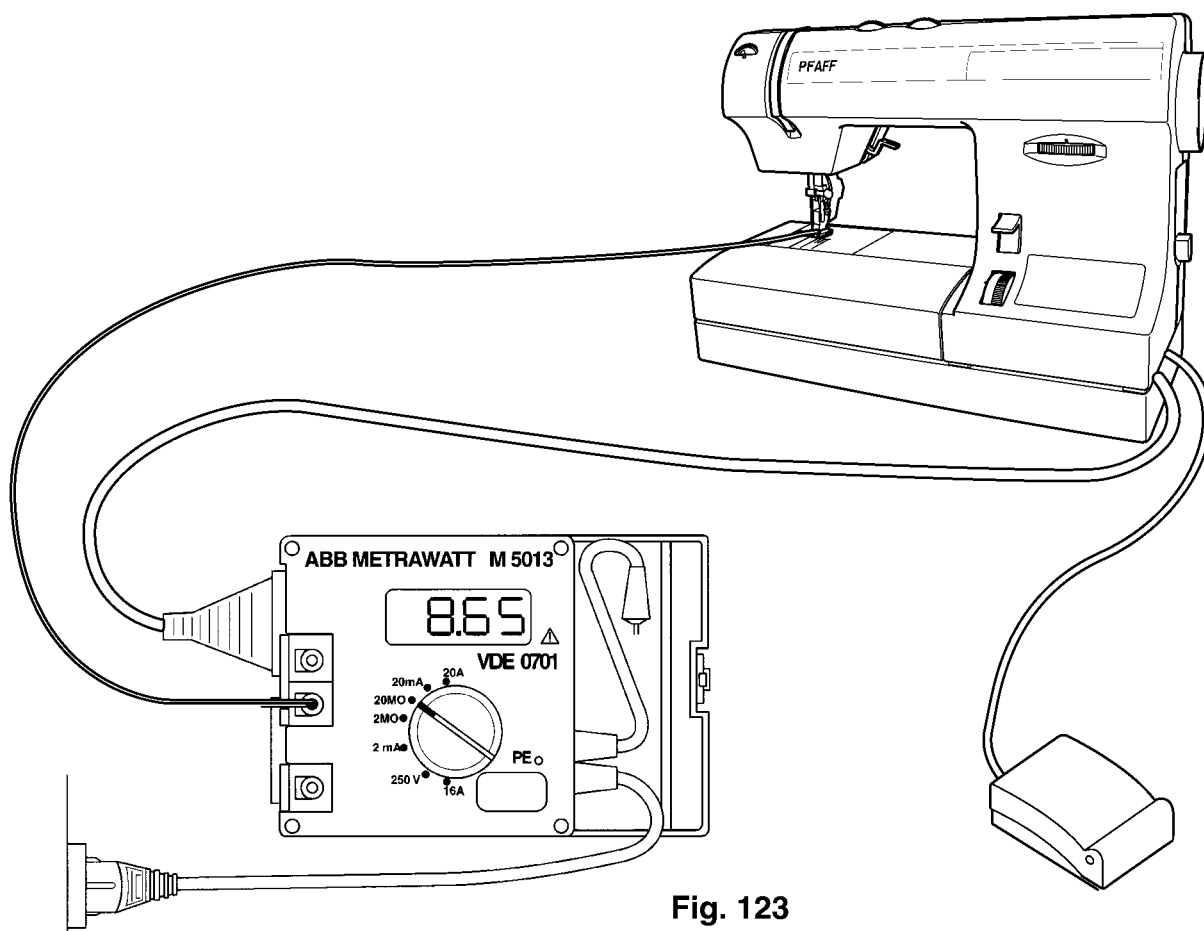

Fig. 123
- Set testing range switch at "20 M Ohm" (fig. 123).